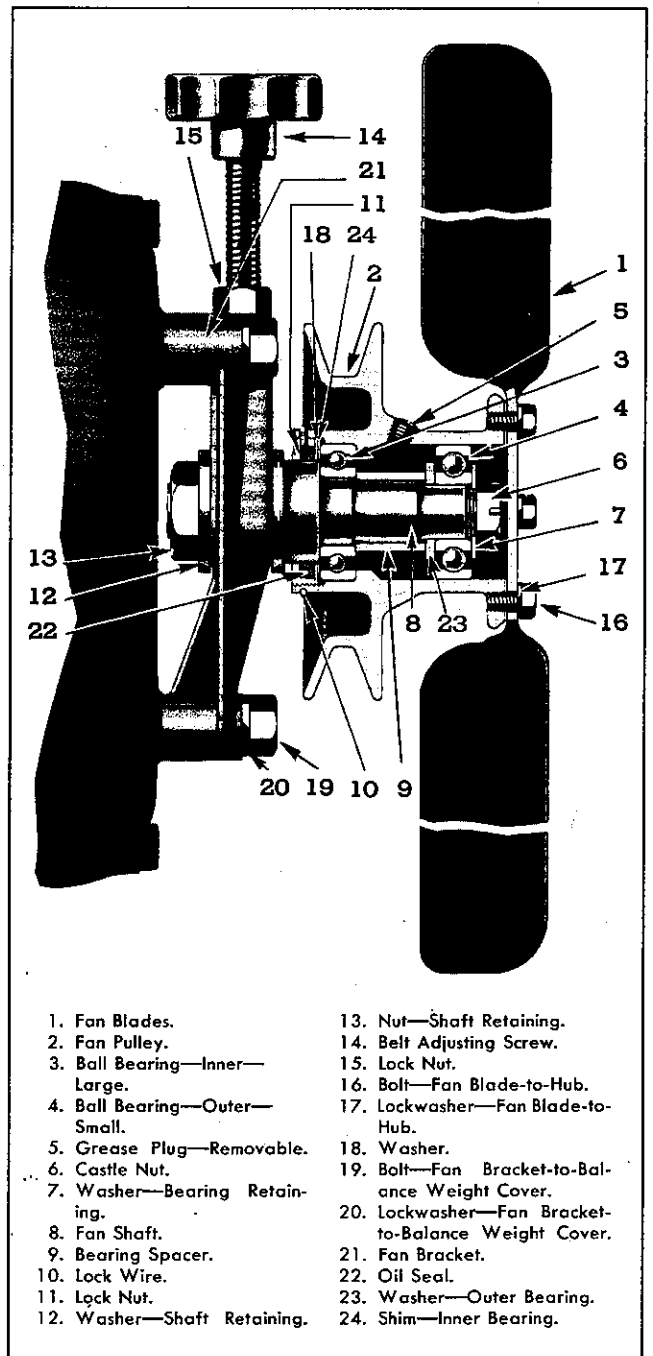

Fig. 14—Fan and Hub Assembly—Automotive.
Fans for automotive applications, shown in Fig. 14, are bolted to a fan pulley (2), which is carried on two annular ball bearings. A slotted bracket supports the fan shaft at the inner end. This construction permits vertical motion of the fan assembly and fan belt adjustment by means of the adjusting lock screw.